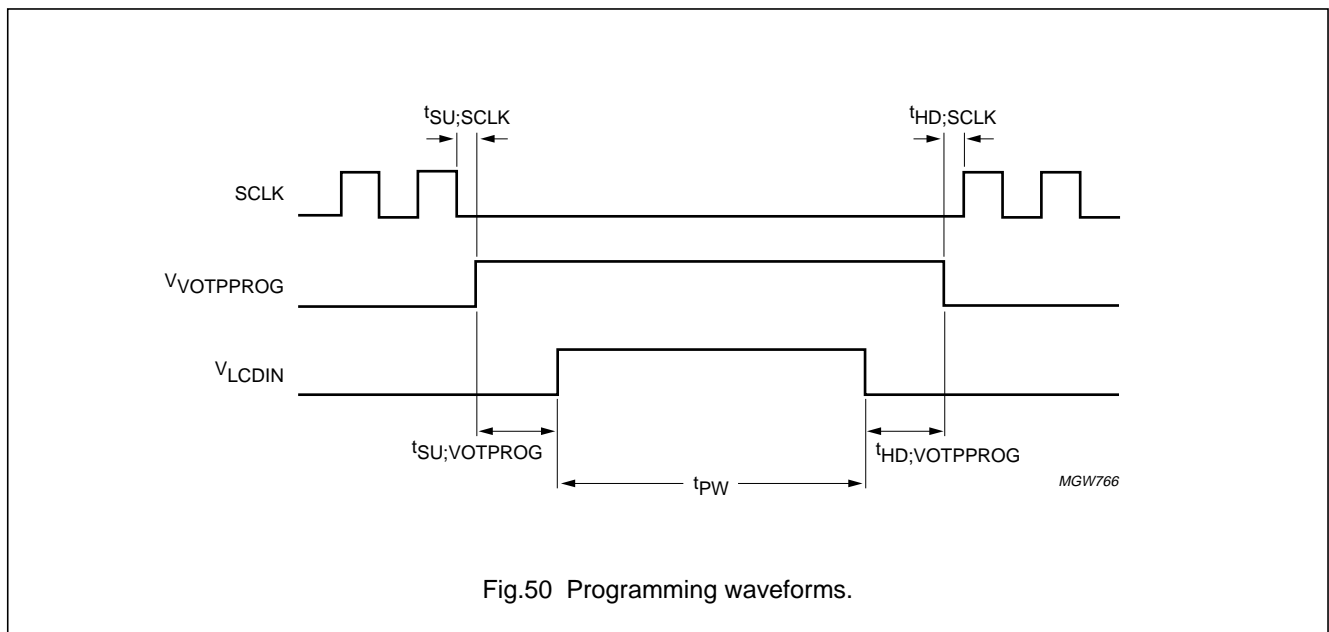

Fig.50 Programming waveforms.
**22.8 Programming specification****Table 27** Programming specification; see Fig.50